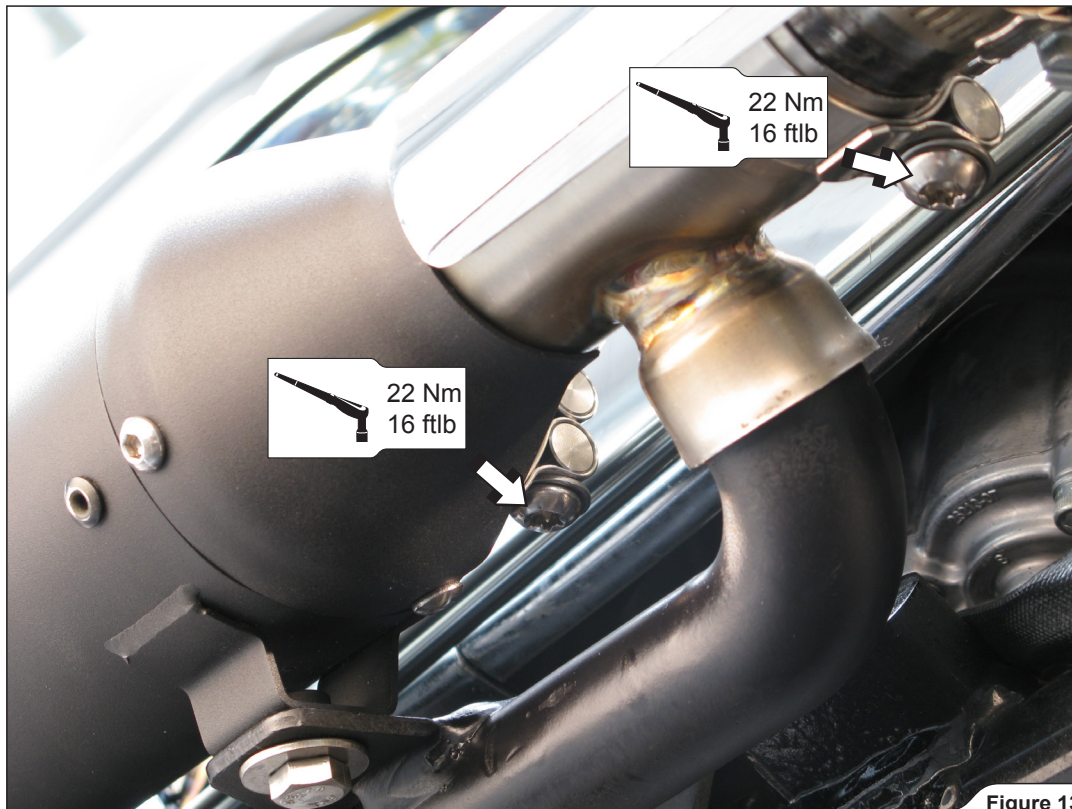

Figure 13
- Align both mufflers and adjust clamps as shown. Tighten them to a specified torques (**Figure 13**).